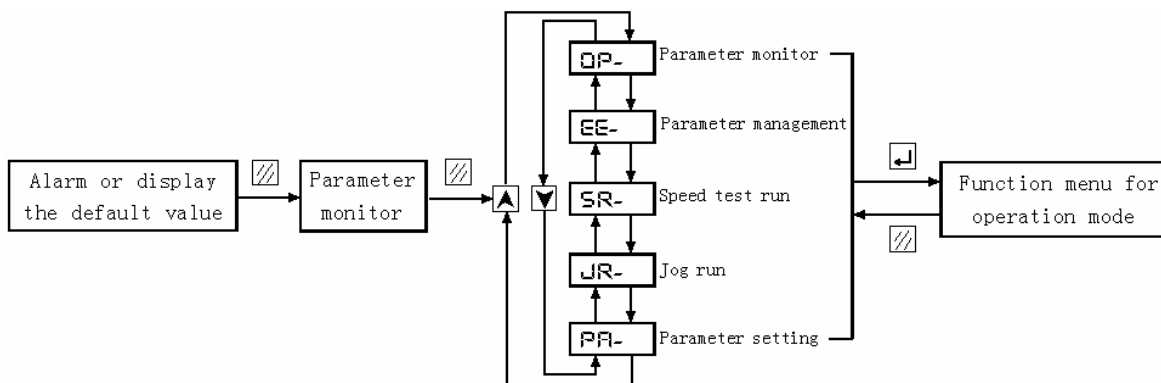

Fig 6.1 Block diagram for mode selection operation
- The servo system operation executes according to multilayer menu, the first layer is main menu, including 5 kinds of operation modes (As shown in fig 6.1), the second layer is function menu of each operation mode.